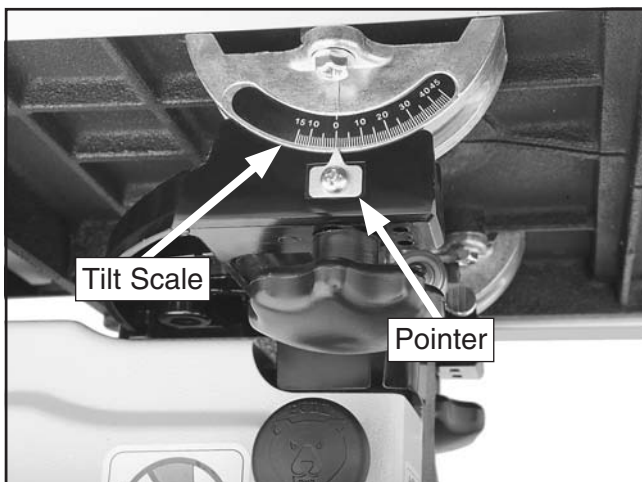

Figure 38. Location of the table tilt scale.
8. Observe the position of the table tilt pointer on the tilt scale located underneath the front of the table (see **Figure 38**).